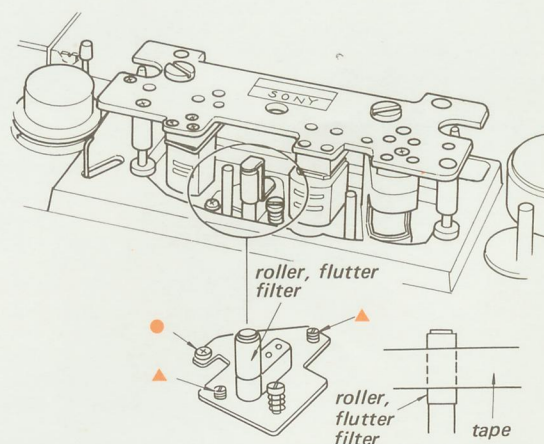

Fig. 3-1-3. Flutter filter roller adjustment
See Fig. 3-1-3.
- (1) Thread a tape and set the unit to the play mode.
- (2) Adjust the height of the Flutter Filter Roller by the screws marked ▲ and ● in Fig. 3-1-3 so that the tape runs through the middle of the Flutter Filter Roller.
- (3) Turn the screw marked ● in Fig. 3-1-3 to perform the azimuth adjustment of the Flutter Filter Roller.
- (4) For zenith adjustment turn the two screws marked ▲ in Fig. 3-1-3 to contact the tape uniformly with the record and playback heads.
- (5) Make sure that the Flutter Filter Roller smoothly rotates during tape running. Apply lock paint to the adjusting screws.